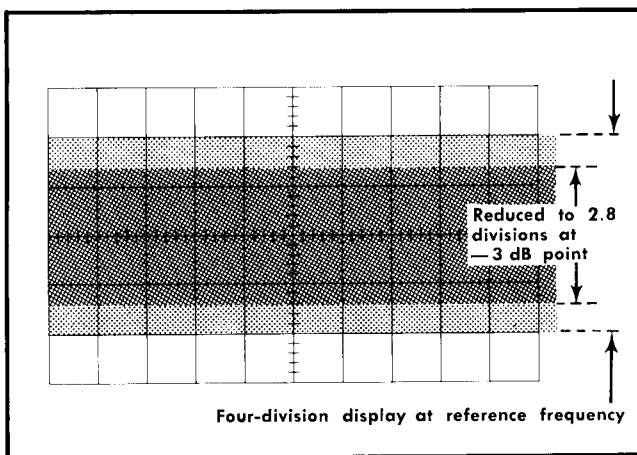

Fig. 6-29. Typical CRT display when checking vertical bandwidth.
e. Without changing the output amplitude, increase the output frequency of the generator until the display is reduced to 2.8 divisions (-3 dB point; see Fig. 6-29).
- d. Without changing the output amplitude, increase the output frequency of the generator until the deflection is reduced to 2.8 divisions (−3 dB point; see Fig. 6-29).
- j. Without changing the output amplitude, increase the output frequency of the generator until the deflection is reduced to 2.8 divisions (−3 dB point; see Fig. 6-29).
- e. Without changing the output amplitude, increase the output frequency of the generator until the deflection is reduced to 2.8 divisions (−3 dB point; see Fig. 6-29).
- k. Without changing the output amplitude, increase the output frequency of the generator until the deflection is reduced to 2.8 divisions (−3 dB point; see Fig. 6-29).